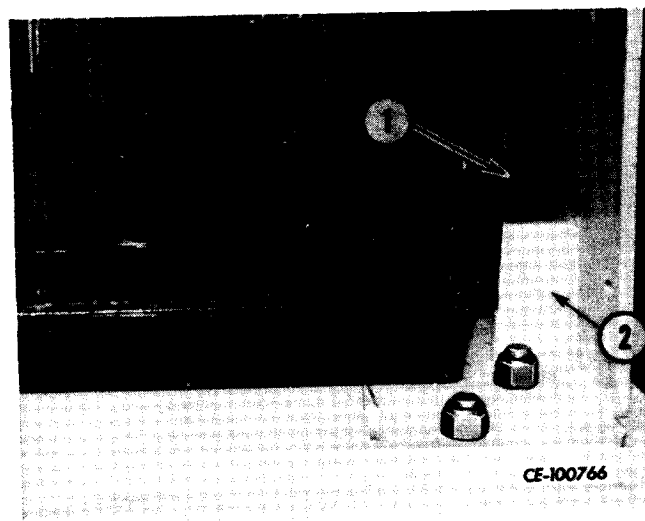

Figure 2-11
Remove the hardware securing the radiator mount (1, Fig. 2-11) to the bracket (2).